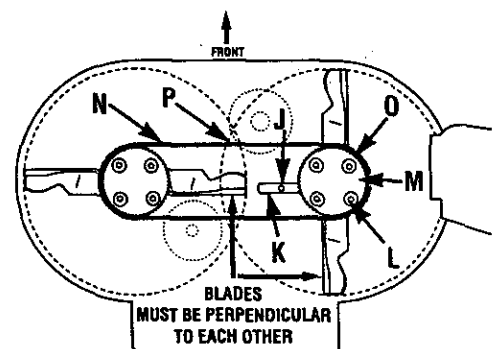

Figure 5-6: Blade Spindle Belt.
3. Align sight holes (O, Figure 5-6) in pulley with spindle housing-to-mower deck mounting bolts (L).
4. Loosen screw (J) and rotate arm (K) to the rear.
5. Loosen four mounting bolts (L) securing spindle housing (beneath mower deck) to mower deck.
7. Replace belt (N) with new belt. **IMPORTANT:** Set blades perpendicular (90°) to each other.
8. Rotate arm (K) to move spindle housing and apply tension to belt. Belt cogs and pulley grooves must mesh together. When applying moderate finger tension (8-12 lbs.), belt should deflect approximately 1/2" (12.7 mm) at (P), midpoint of deck.
9. Tighten bolts (L) to 15 ft.-lbs. (20.3 Nm). Tighten screw (J).